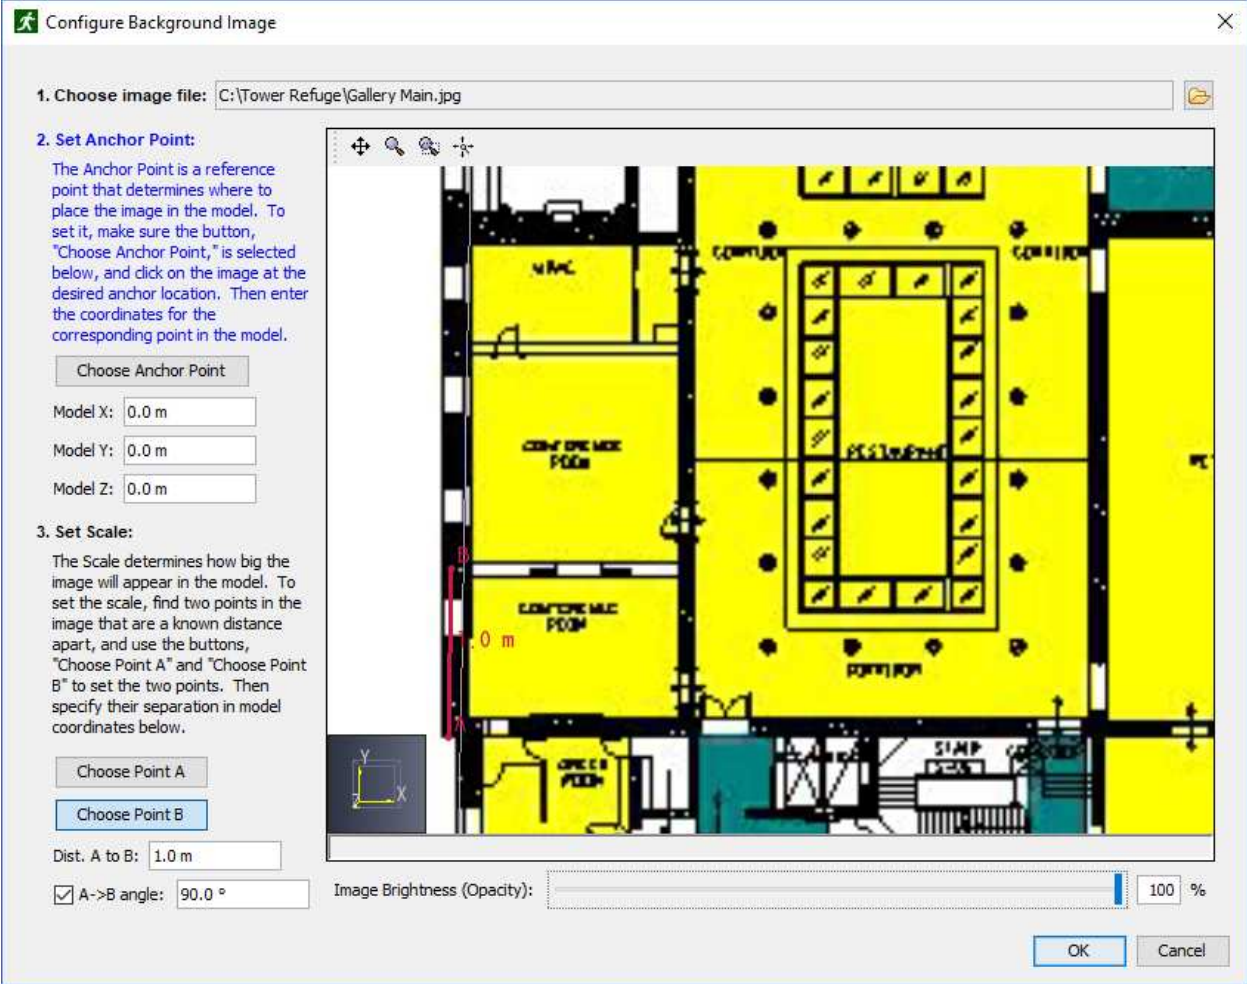

Figure 79. Set scaling points A and B
3. To specify the scaling for the image, two points, A and B, and a distance between them can be specified (Figure 79).